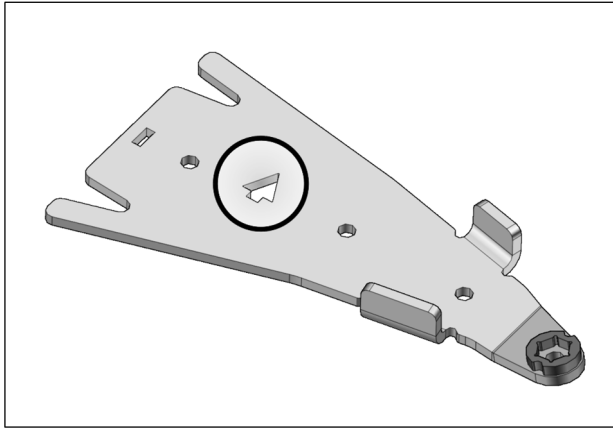

Fig. 1
1. For installation purposes, directional arrows have been cut out of some components in the anchor bracket kits. These arrows indicate the front of the vehicle relative to the component. See Fig. 1.